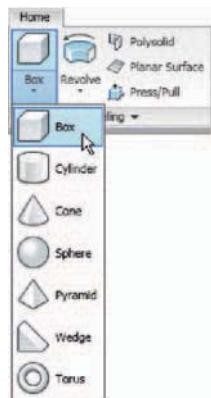

Fig. 12.25 Selecting the **Box** tool from the pop-up in the **Home/Modeling** panel
2. Click the **Box** tool icon in the **Home/Modeling** panel (Fig. 12.25). The command line shows: